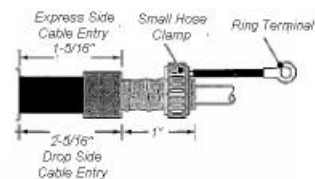

Figure 7b - Cable Preparation Dimensions for bonding
12.02 Assemble the small hose clamp over the bond strap, **Figure 7b**, and tighten securely to ensure bond is provided between the armor, the dual strength members and the bond strap.